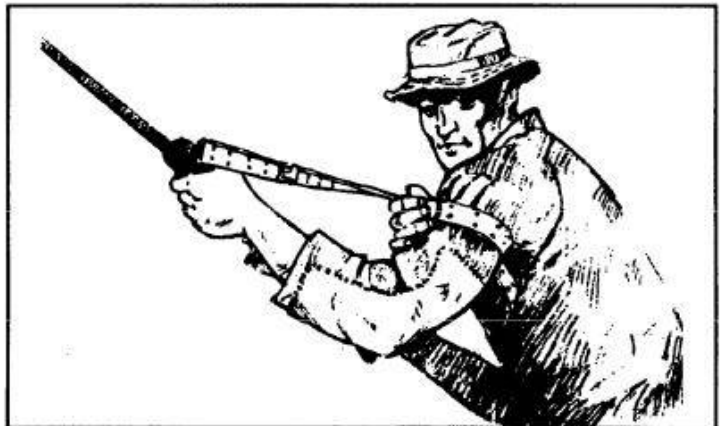

Figure 2-11. Placing the sling around the nonfiring arm.
- (4) After adjusting the length, the sniper places the weapon on his firing hip and supports the weapon with his firing arm. The sniper turns the weapon 2-10. Adjusting the length of the sling with his firing arm. The sniper turns the sling away from him 90 degrees and inserts his nonfiring arm.
- (5) The sniper slides the loop in the large section of the sling up the nonfiring arm until it is just below the armpit (Figure 2-11). He then slides both leather keepers down the sling until they bind the loop snugly round the nonfiring arm.